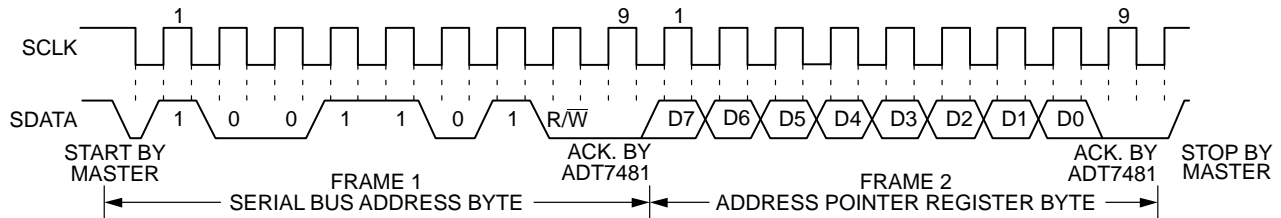

Figure 16. Writing to the Address Pointer Register Only
1. If the address pointer register value of the ADT7481 is unknown or not the desired value, it is necessary to set it to the correct value before data can be read from the desired data register. This is done by performing a write to the ADT7481 as before, but only the data byte containing the register read address is sent, as data is not to be written to the register. This is shown in Figure 16.
2. If the address pointer register is already at the desired address, data can be read from the corresponding data register without first writing to the address pointer register, and the bus transaction shown in Figure 16 can be omitted.